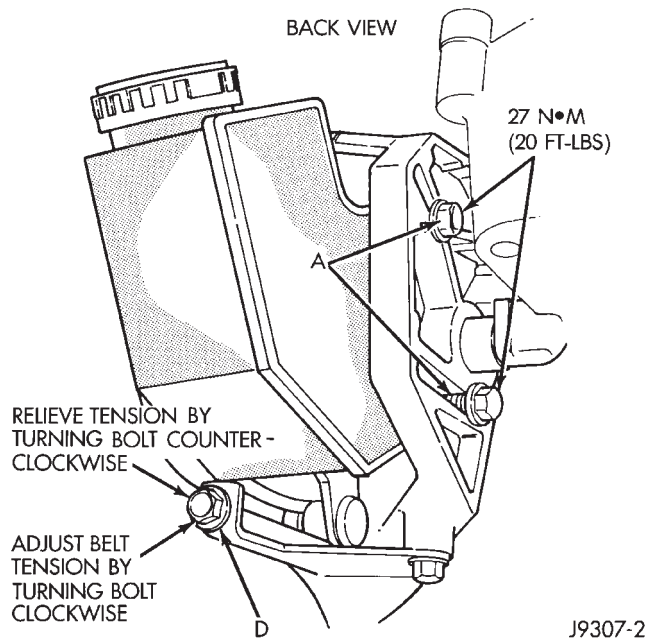

Fig. 5 P.S. Pump Rear Mounting Bolts—4.0L Engine
- (1) Loosen two rear power steering pump mounting bolts A (Fig. 5).
- (3) Loosen pump adjusting bolt D (Fig. 5).
- (4) If belt is to be adjusted, refer to Drive Belt Tension specifications at the end of this group for correct tension and proceed to step 7.
- (6) Install new belt. Refer to the end of this group for Drive Belt Tension specifications.
- (7) Tighten pump adjusting bolt D (Fig. 5) to attain proper belt tension.
- (8) Tighten rear pump mounting bolts, pivot bolt and lock nut to 27 N•m (20 ft. lbs.) torque.